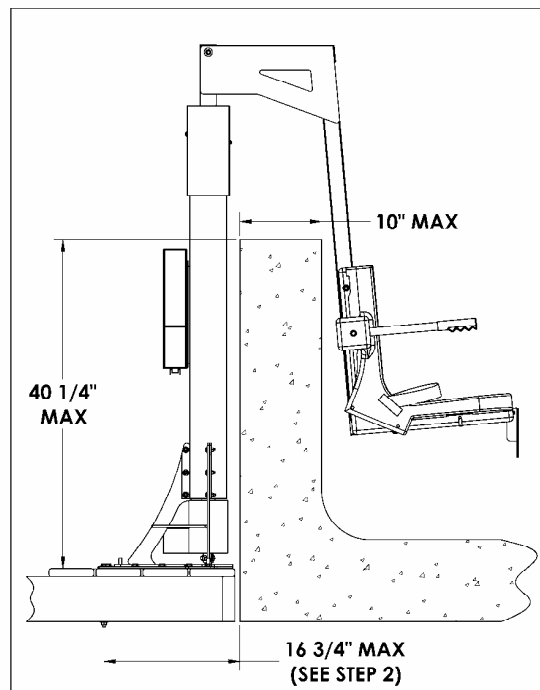

FIGURE 1
2. The setback for the center anchor bolt must be no more than 16 3/4 inches from the spa wall. **FIGURE 1 (NOTE: For walls less than 10", the setback may be increased)**